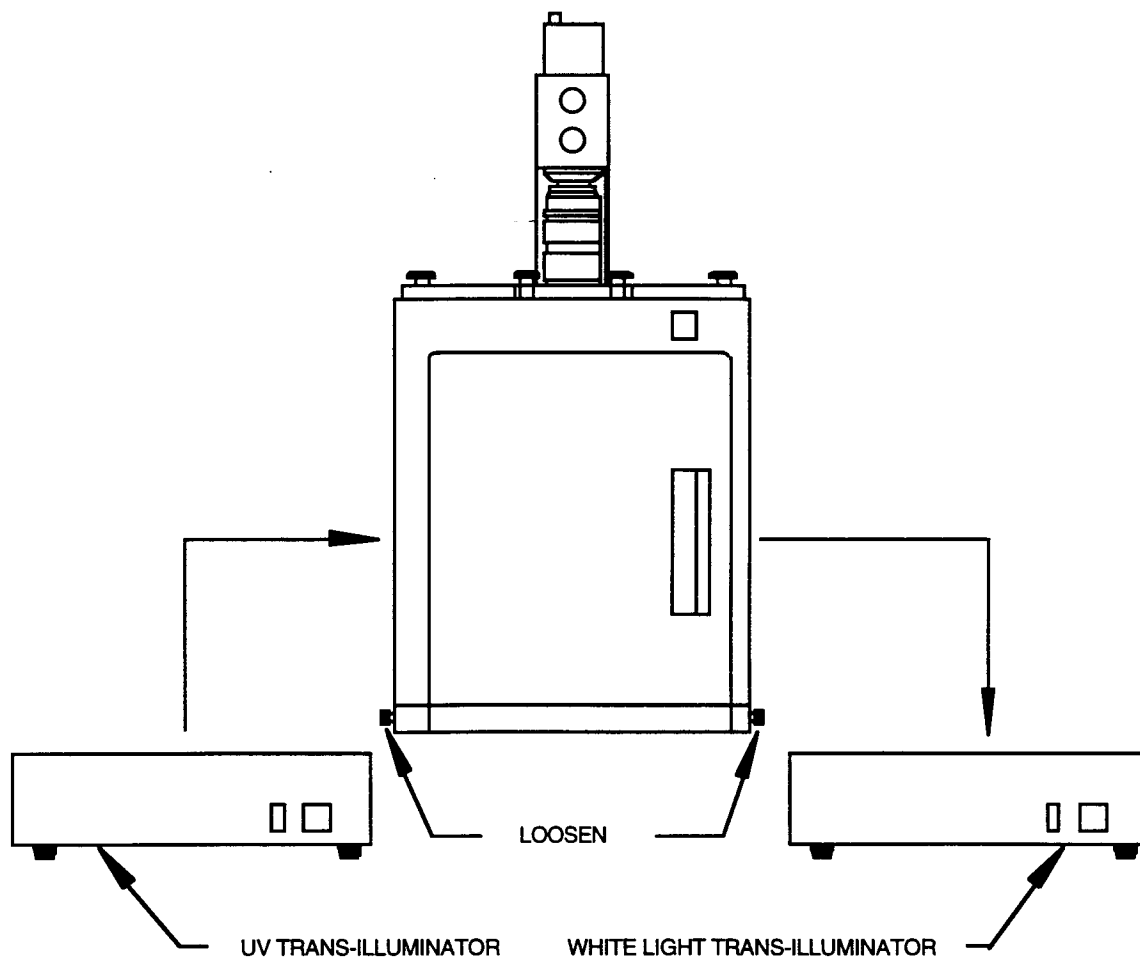

Figure 8. Attaching the White Light Accessory
- Step 2:** Turn the four (4) knobs at the base side of the Gel Doc 1000 hood until loose.
- Step 3:** Carefully lift the darkroom from the UV transilluminator and gently place it on the white light transilluminator (See Figure 8).